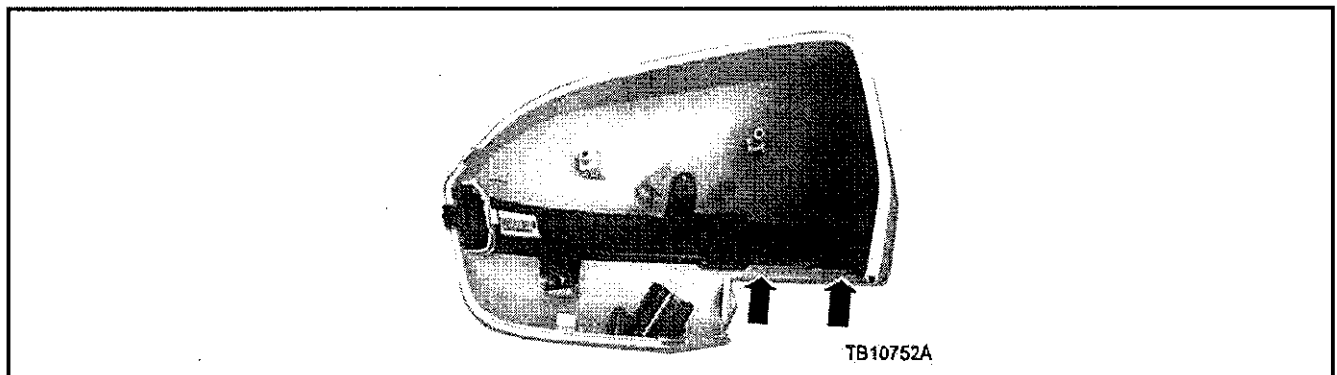

Figure 5 - Article 15-0135
5. Disconnect the two (2) electrical connectors.
6. Clean the location shown in the figure with Isopropyl Alcohol. (Figure 5)